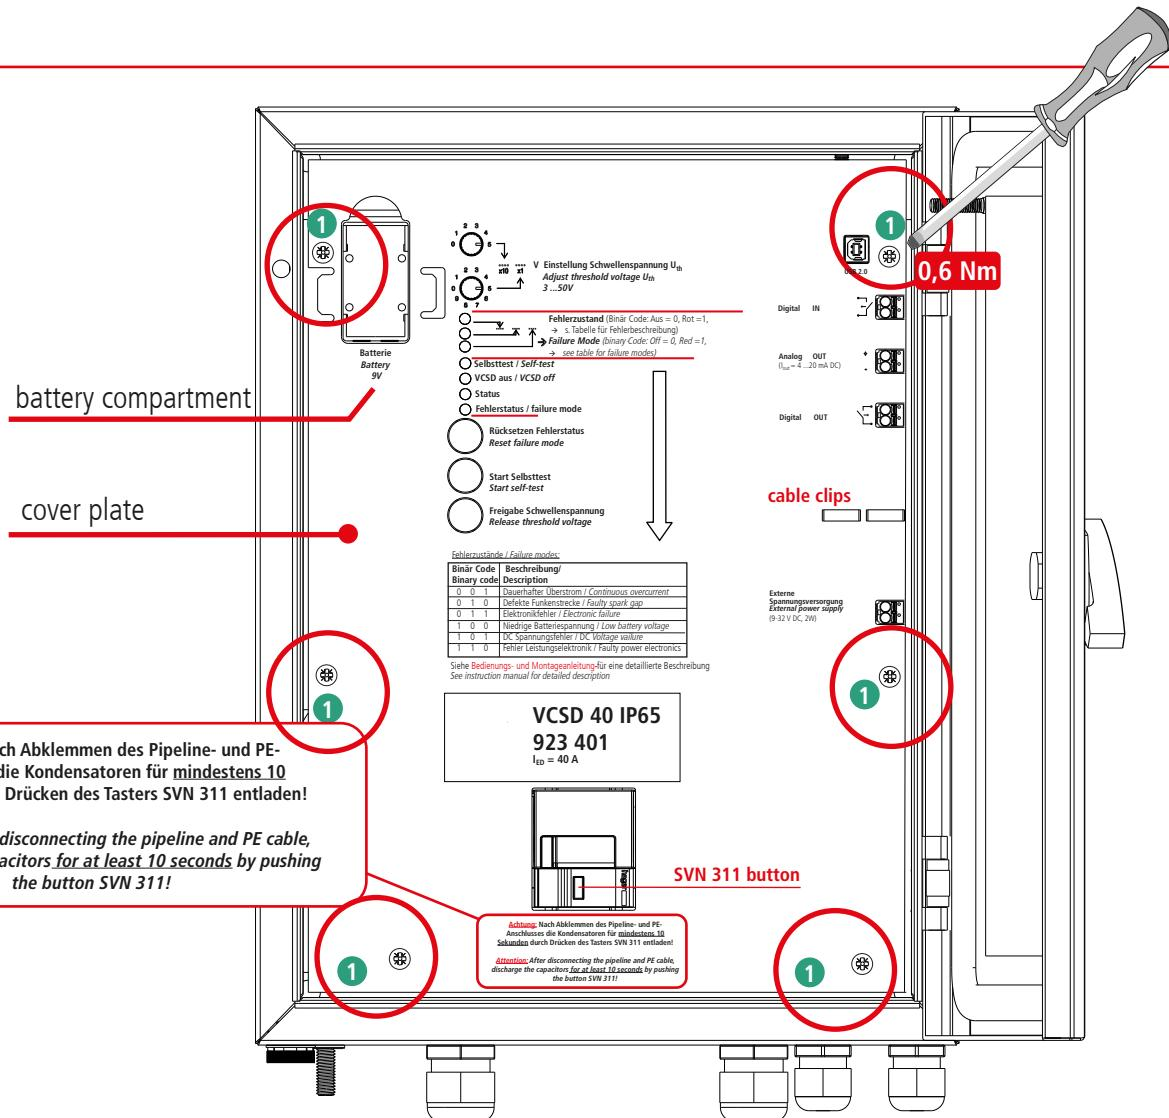

Fig. 3.2 Cover plate
For further installation and connection work, take off the cover plate and remove the battery from the housing (see Fig. 3.2).
- ☛ Untighten and remove the six fixing screws **1** before removing the battery (see Fig. 3.2).
To discharge the capacitors, press the SVN 311 button for at least 10 seconds (see Fig. 3.2).
If required, the signal lines can also be led into the housing subsequently (**via M20 cable glands**). In this case, the cover plate does not have to be removed. The signal lines can be directly fixed on the cover plate using the cable clips (see Fig. 3.2, page 8).